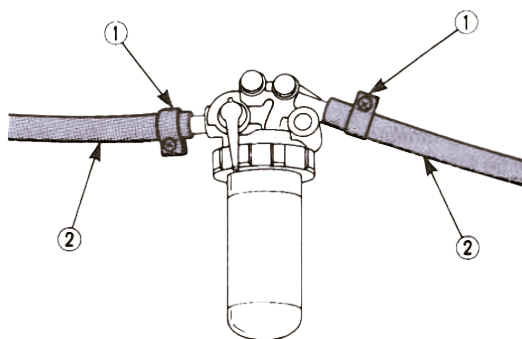

Figure 24. Fuel pipes and clamp bands check.
NOTE : Check the fuel pipes (2) (see figure 24) every 50 hours of operation.
1. If the clamp band (1) (see figure 24) is loose, apply oil to the screw of the band, and tighten the band securely.